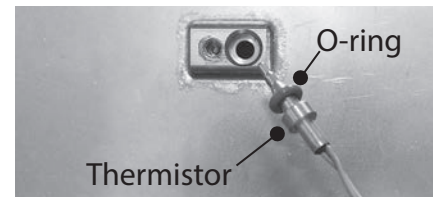

Figure 65 - New O-ring installation
**19** Locate the new exhaust thermistor, metal clip and O-ring provided in the kit. Install O-ring on the thermistor. See Figure 65.